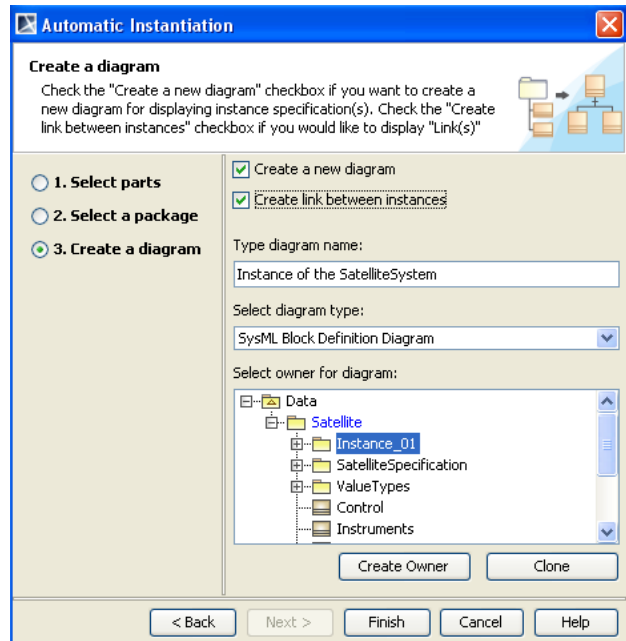

Figure 3.7c Automatic Instance Generation, Part 3
- v. Click the “Create a new diagram” checkbox (see Figure 3.7c).